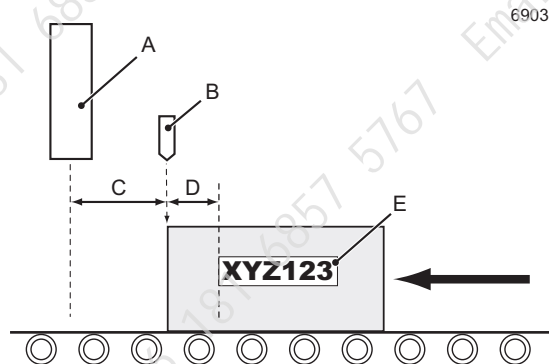

Figure 3. Trigger to Print Head Distance
Use this option to set the distance between the trigger and the printhead. The default value is 0 mm. Figure 3 helps you understand the difference between the **Trigger to Printhead Distance** and the **Print Delay**. The large arrow shows the direction of the movement of the product.
In Figure 3, the trigger signal from the sensor occurs at the edge of the product, but the message area (E) is not at the edge of the product. The distance between the sensor position and the print position (E) is the **Print Delay** (D). This distance depends on the product. The **Print Delay** parameter is described in the *Linx 5900 & 7900 Quick Start Guide*.